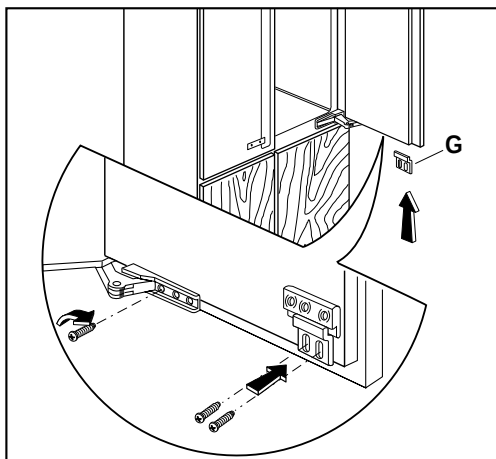

Fig. 9
- Fit bottom guide block **G** using two screws and fix the hinge with the screw in the vertical slot (Fig. 9).